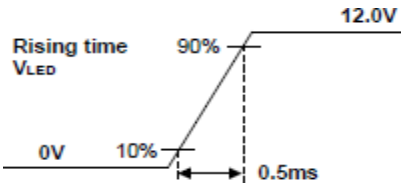

Figure 5. Inrush Measure Condition
4. Measure condition (Figure 5)